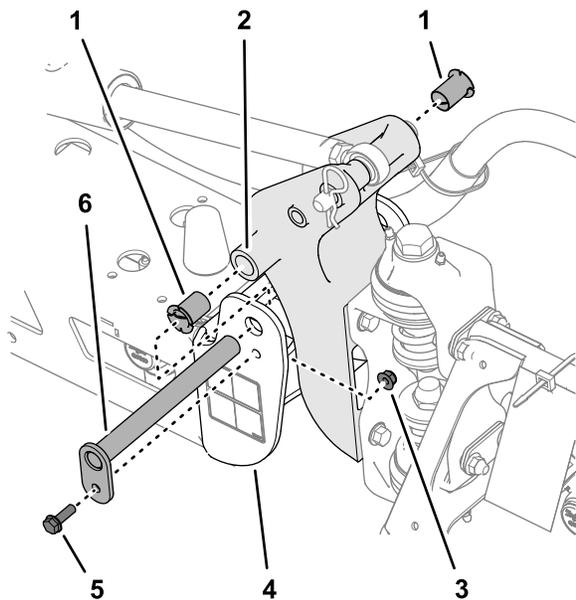

Figure 115
3. Remove the bolt and nut that secure the pivot pin, and remove the pin (Figure 115).
5. Remove and inspect the nylon bushings from the front and back sides of the pivot bracket (Figure 115).
6. Lubricate the nylon bushings with a small amount of oil and install the bushings into pivot bracket (Figure 115).
7. Align the holes in the pivot bracket with the holes in the end channel (Figure 115).